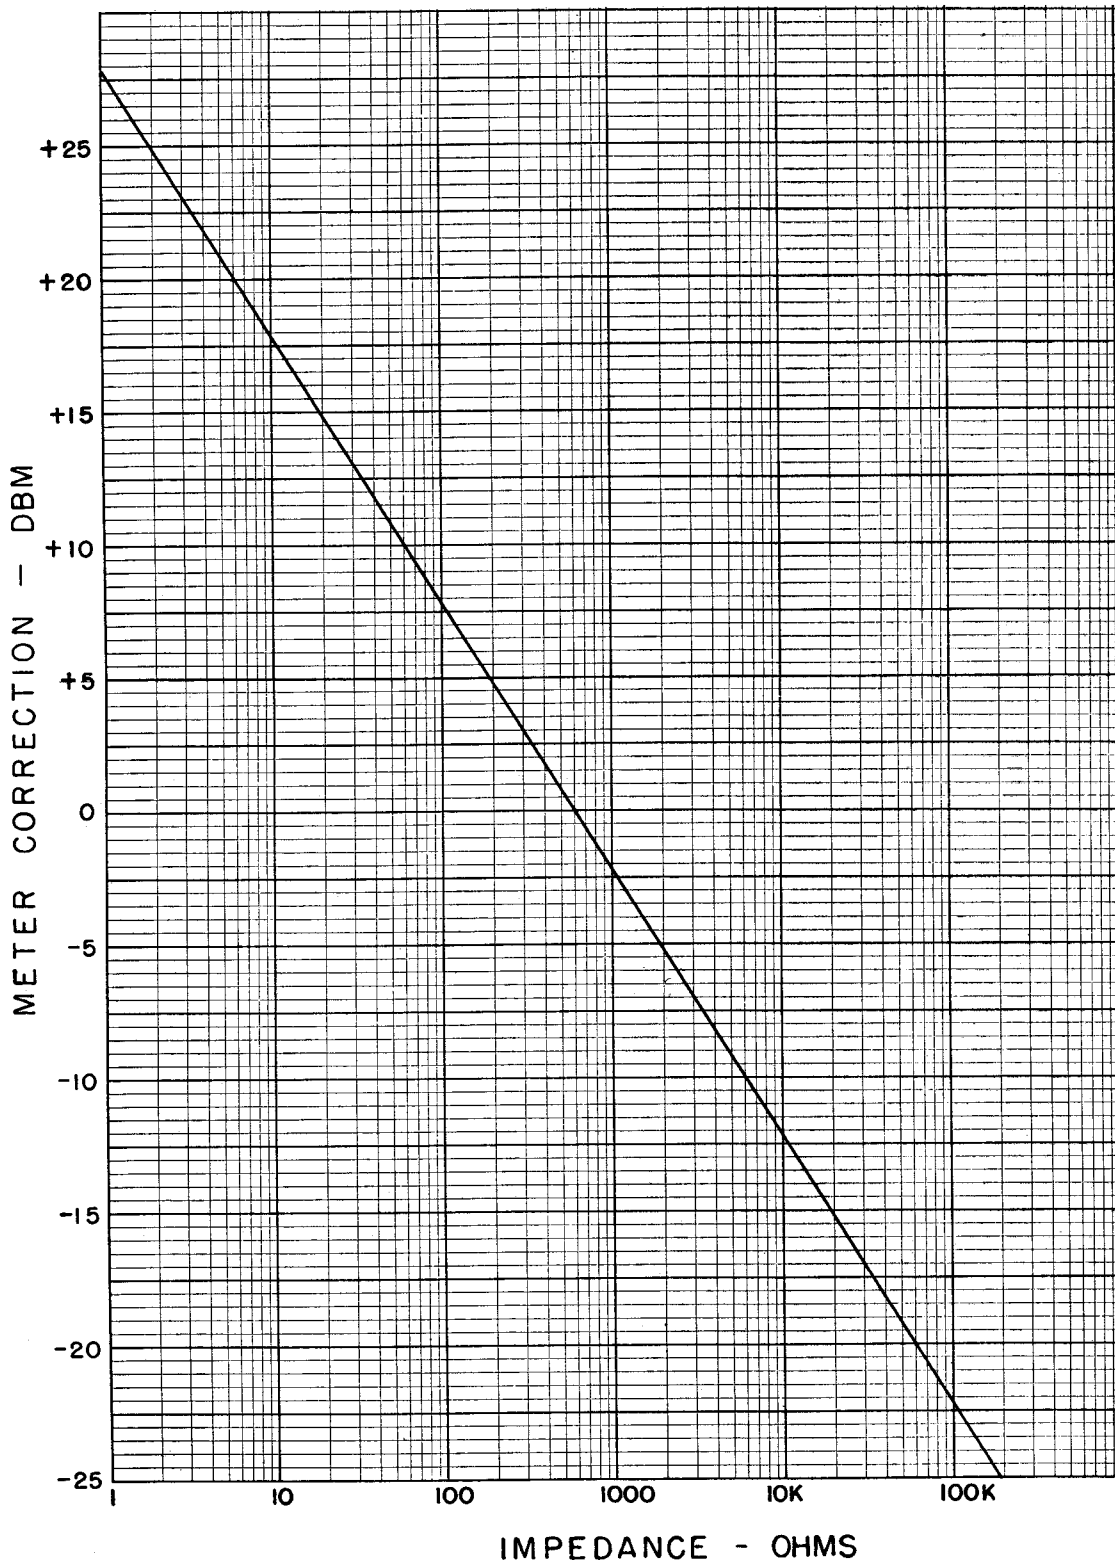

Figure 2-1. Model 400D/H Impedance Correction Graph
3) To obtain the level in dbm with respect to impedances other than 600-ohms, the meter correction graph shown in Figure 2-1 may be used. The level in dbm will be the algebraic sum of the level as indicated on the meter and the correction shown on the graph. For example, if the range switch is at the +30 db position, the measurement made across 90 ohms, and the indication on the DECIBELS scale +1, the level in dbm is obtained as follows: